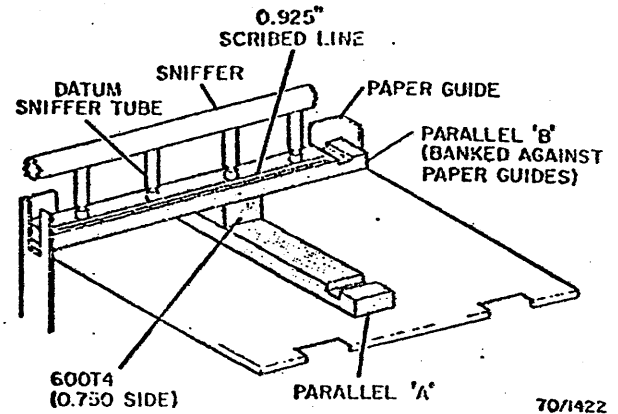

Fig. 3-60. Sniffer Rise Height and Back-up.
6. Datum sniffer tube should be on the 0.845 line (Fig. 3-60).
1. Refer to Fig. 3-60. Lift and hold the right-angle cam follower into the corner of the right-angle cam. Slide the parallel bars and tool 600T4 under the sniffer tubes and bank bar B against the paper guides. The datum tube should be just touching bar B at the 0.925 line.